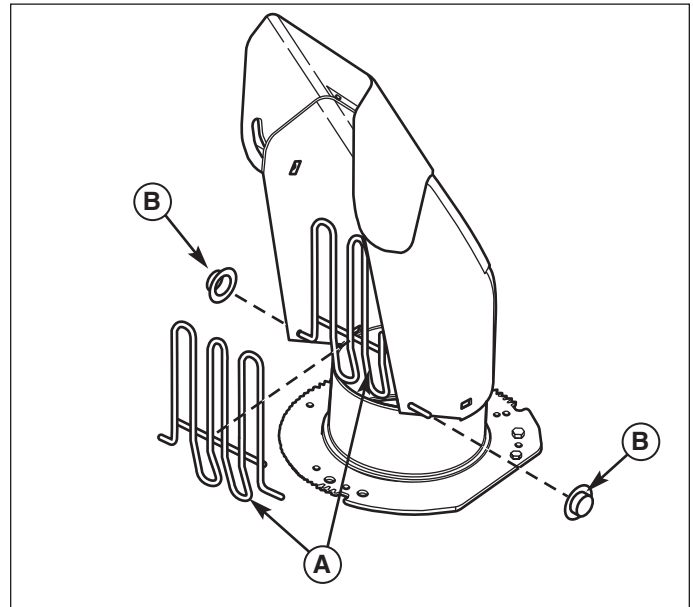
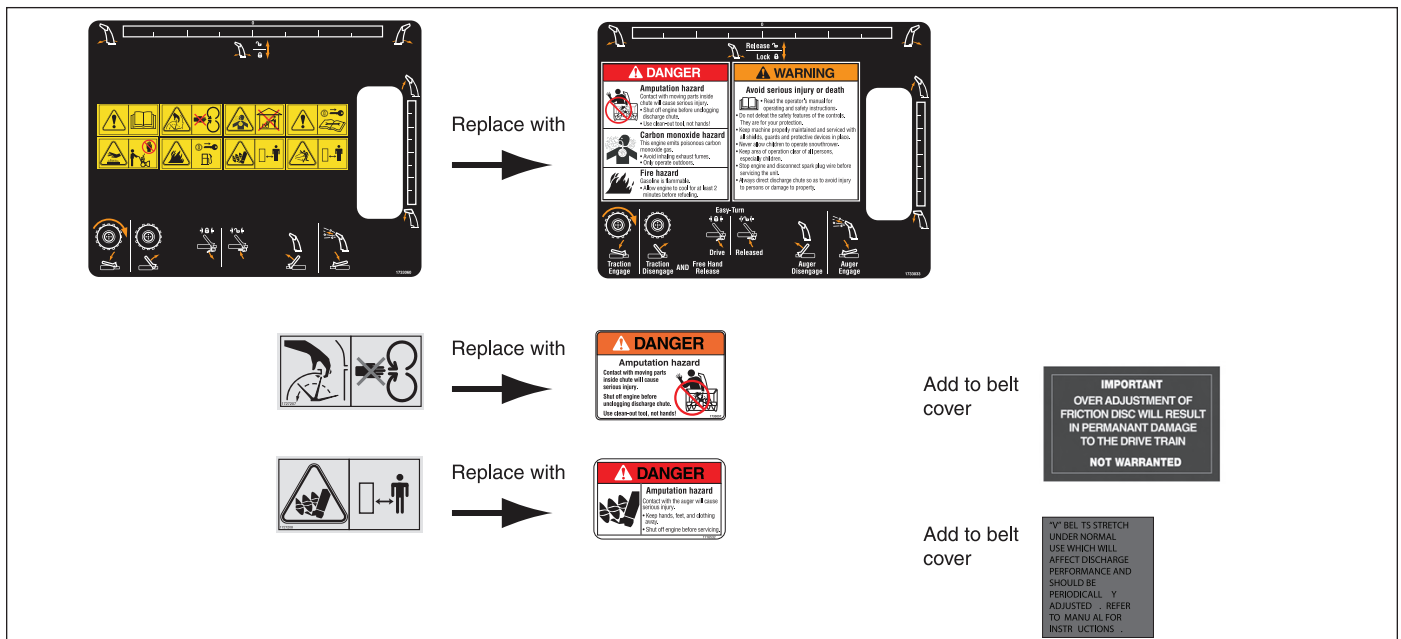

Figure 1. Remove Chute Guard
Figure 2. Decal Replacement
1. Remove the push nuts (B, Figure 1) securing the chute wireform (A).
2. Remove and discard the wireform (A).
3. Replace the icon-based CE decals on the unit with the text and icon ANSI decals from this kit as shown in Figure 2.